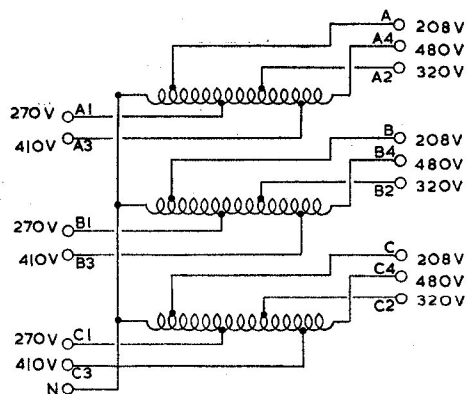

Fig. 1. Diagram of internal connections
1. The P2403 transformer is identical with that described and illustrated in the main chapter, except for different transformer output voltages as given in the circuit diagram (fig. 1).